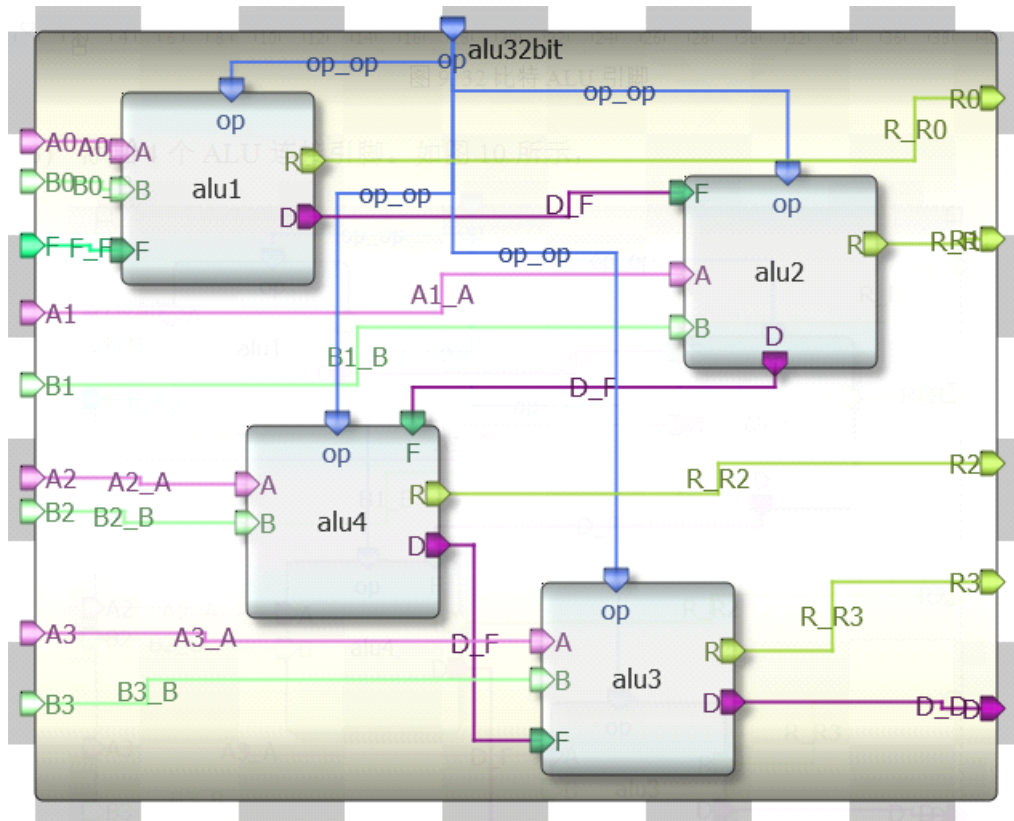

Fig. 10. 32 bits ALU connections
- 3) Add 4 ALUs as fig. 10, and cascade them. Inputs $A_3A_2A_1A_0$, $B_3B_2B_1B_0$ 和 $R_3R_2R_1R_0$ are 32 bits ALU's input and output.